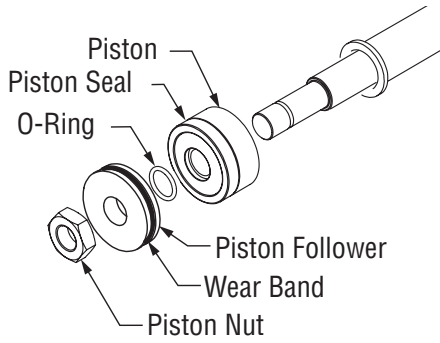

Figure 5-4, Piston Removal
5. Remove the piston retaining nut and remove the piston assembly. (Figure 5-4)